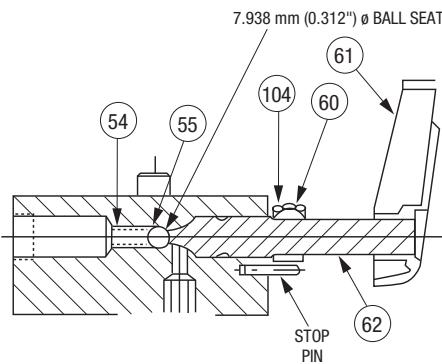

Figure A2 ⑧
Manual control valve needs adjustment or repair.	See Hydraulic Schematic (8) and refer to Figures A2 and A3 in the Repairs section of this manual
Check ball does not seat properly.	See Manual Release/Automatic Release Valve Handle Setting, Figure A2, and Ball Seat Refinishing, Figure B4 in the Repairs section of this manual.
Manual control valve set incorrectly.	See Hydraulic Schematic (8) and refer to Figures A2 and A3 in the Repairs section of this manual.
Refer to Figures A2 and A3. Thread in the shaft (62) until it just touches the check ball (55) (in its spring-loaded closed position). Slide collar (104) on the shaft. Position the handle (61) at the location "Position 1," (Figure A3), with the other surface of the handle flush with the end of the shaft. Lock in place. Rotate the handle to "Position 2," (Figure A3). Slide the collar toward the valve body until it contacts the 15.9 mm (5/8") diameter portion of the control shaft. Rotate the lock collar clockwise until it touches the stop pin, and lock in place.